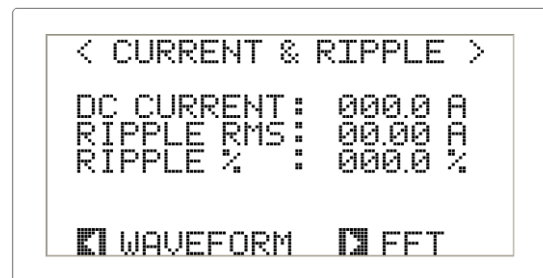
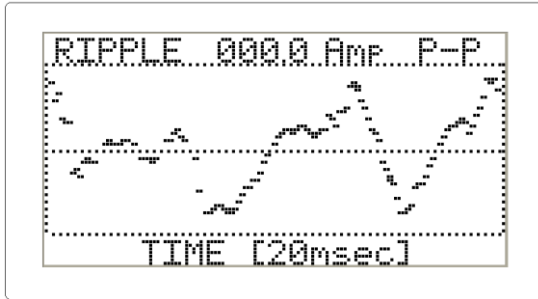
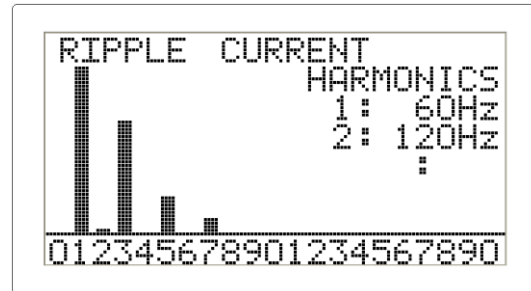

Figure 32 Current & ripple
Figure 33 Ripple waveform
Figure 34 Ripple FFT
2. After selecting the CURRENT & RIPPLE ICON, then you can see the value of DC current and ripple current (Figure 32).
5. During measurement, press the <<> button, and then you can check 20ms WAVEFORM. (Figure 33). If you want to move back to Figure 32, press the <ESC> button.
6. During measurement, press the <>> button, then you can check the graph of frequency analysis (FFT). The graph indicates harmonic contents of 60Hz/50Hz commercial frequency (Figure 34). If you want to move back to Figure 32, press the <ESC> button.